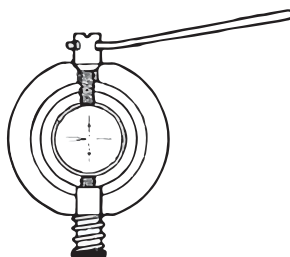

Figure 11
Take off the eyepiece cover (12). Turn the adjusting screw with the pin (Fig. 11) until the values  $b_2'$  and  $b_2$  are the same. Put on the eyepiece cover again.